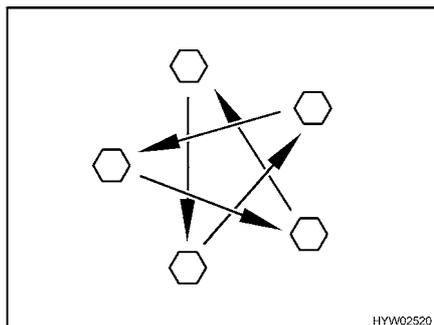

Fig. 216 Tighten the wheel nuts or wheel bolts cross-wise
- Check regularly that the wheel nuts or wheel bolts are firmly seated. Retighten the wheel nuts or wheel bolts of a changed wheel cross-wise (Fig. 216) after 50 km (30 miles). See section 13.5.2 for tightening torque.
- ▷ Tighten the wheel nuts or wheel bolts cross-wise (Fig. 216).